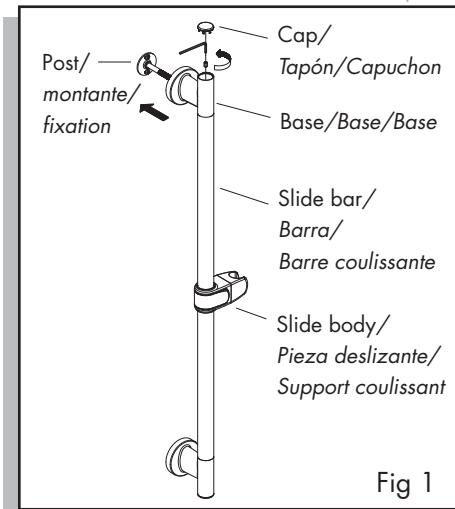

Fig 1
1. Remove cap. Using hex wrench (supplied), loosen set screw and remove post from slide bar base (Fig 1).